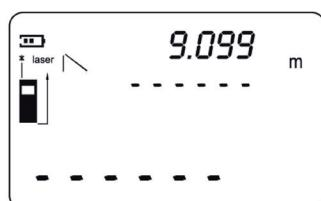

Fig. 17
5. Press the Read button to display the measured length of AB on the first line of the screen (fig. 17).